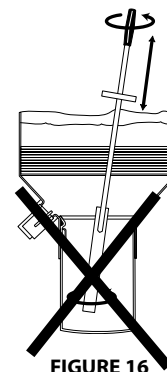

FIGURE 16
11.  **DANGER:** Should a STIR signal come on (in some older models), do not stir cooking oil below cone in fryer (see Figure 16) after first round of cooking each day. Cracklings stirred below cone may cause hot cooking oil to rapidly rise up and out of fryer. You may be burned or badly hurt.